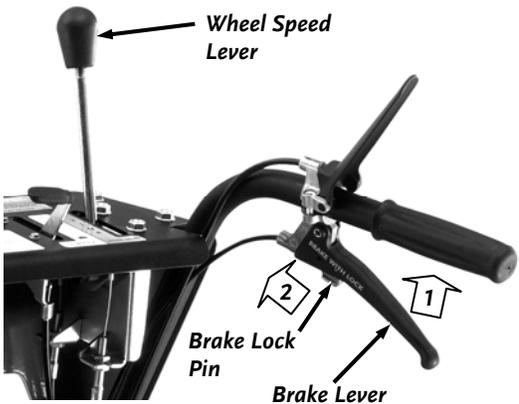

Figure 22
1. Shift the Wheel Speed Lever to Neutral **N** (**Figure 22**)